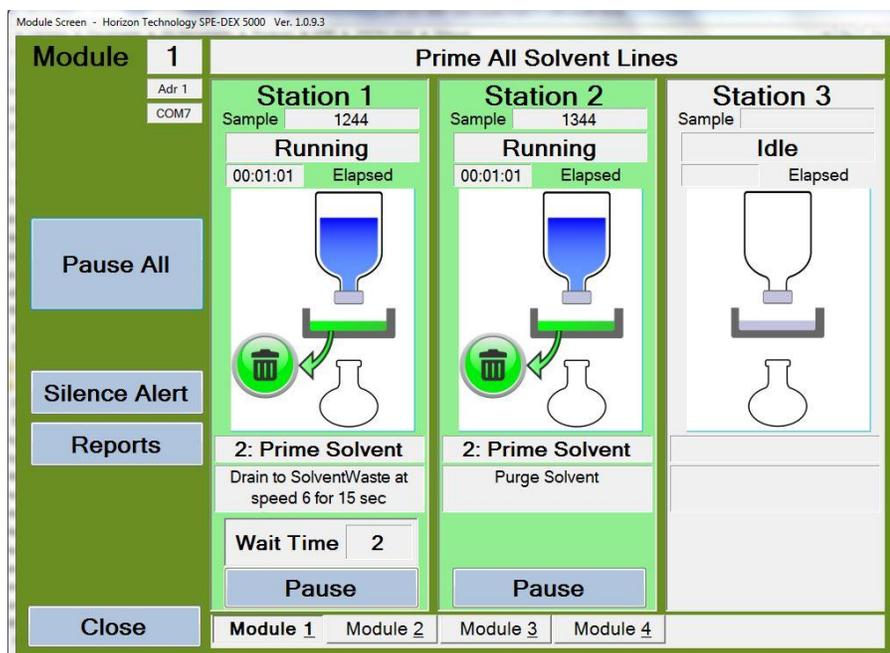

Figure 6-24. Example Showing the Status of Station 1 and 2
Step 33: With the Disk Holder and the WIV in position, click **Start Run**. The Extractor Module will run the method and the Module screen (Figure 6-24) indicates the run status.